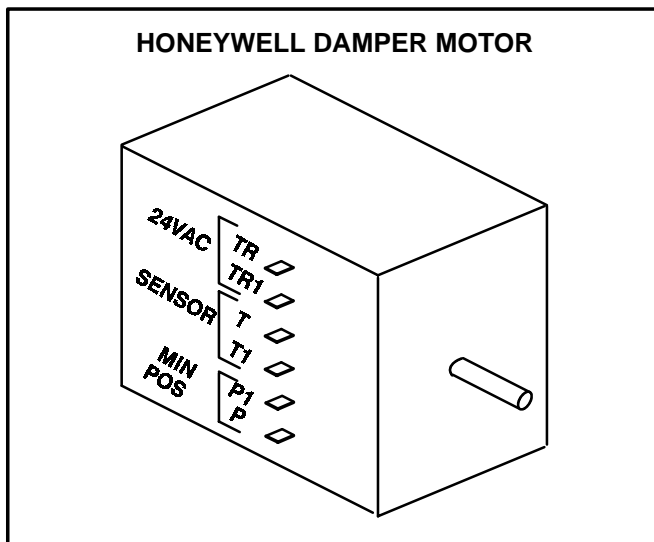

FIGURE 6
- 4 - Install jumper on damper motor terminals T and T1. See figure 6.